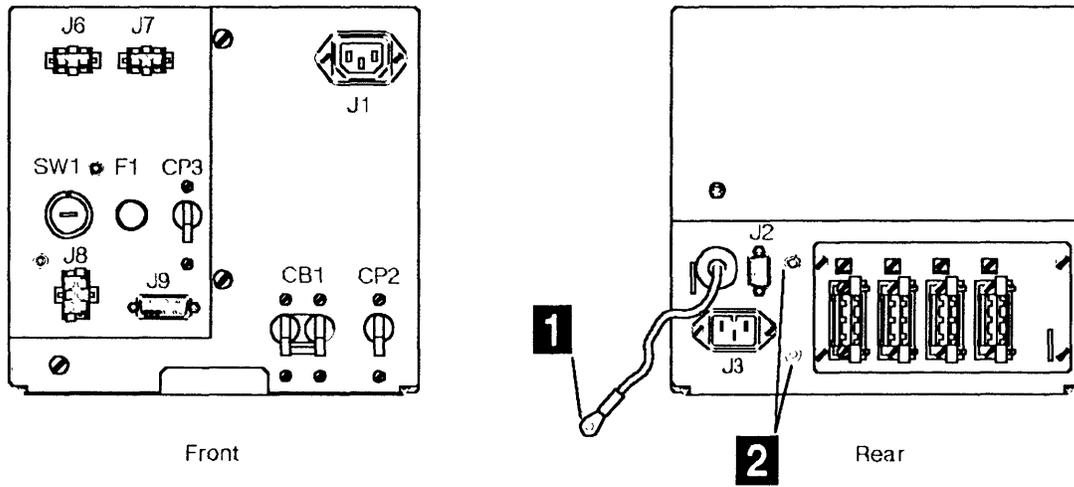
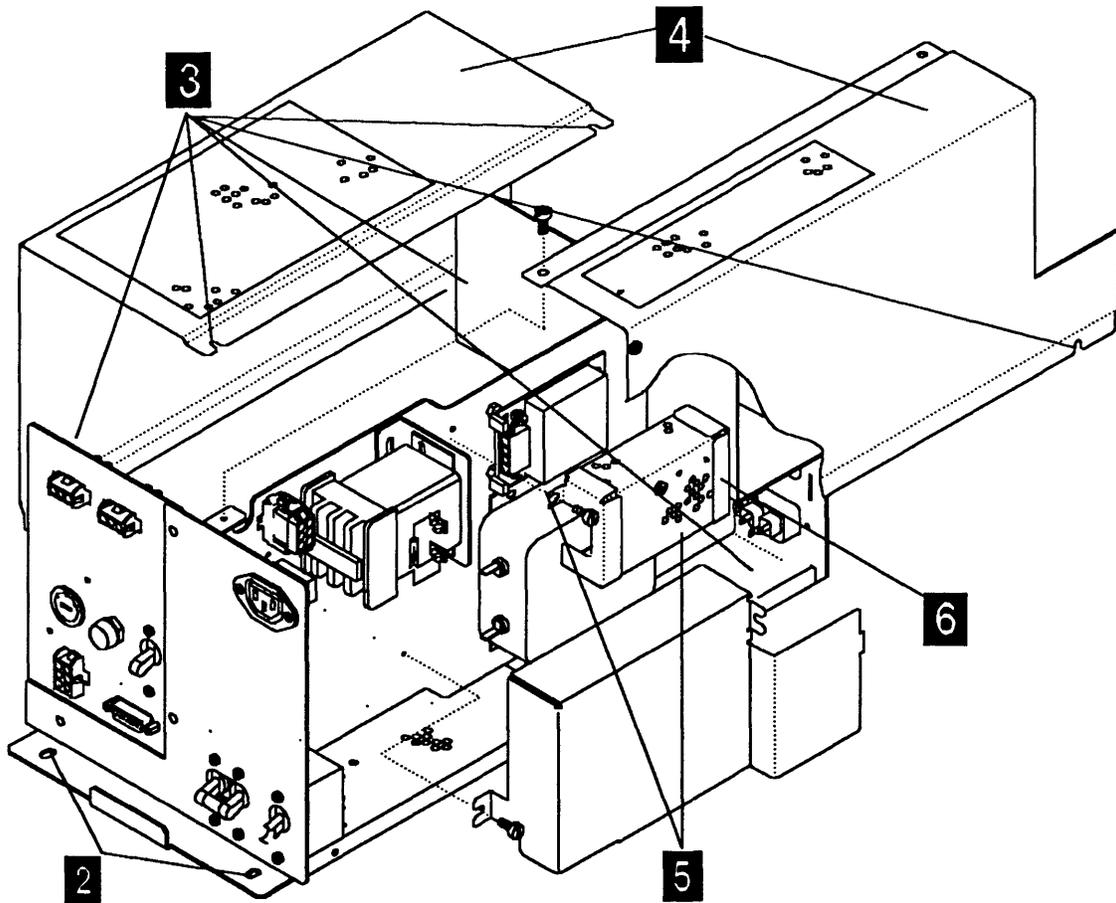

Figure 4-87. Cable Locations on Primary Power Box
Figure 4-88. PS2 in Primary Power Box
- Refer to Figure 4-87 and to Figure 4-88 on page 4-63 then do the following .